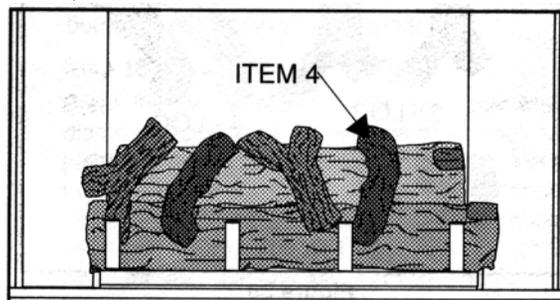

Figure 36
7. See Figure 36. Position the remaining "hooked" Log (Item 4) with the "hook" on the second indentation from the right on the Back Log. The "straight" portion of the log will lay on the second indentation from the right on the Front Log.